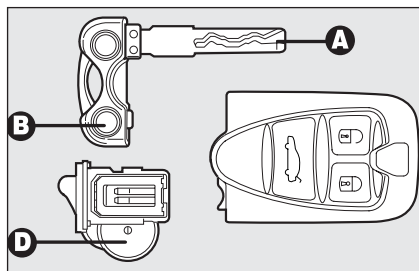

fig. 8
To change the battery **fig. 8** proceed as follows:
- ☐ remove the battery **D-fig. 8** from the case taking note of the bias (in the figure the positive pole is facing downwards);